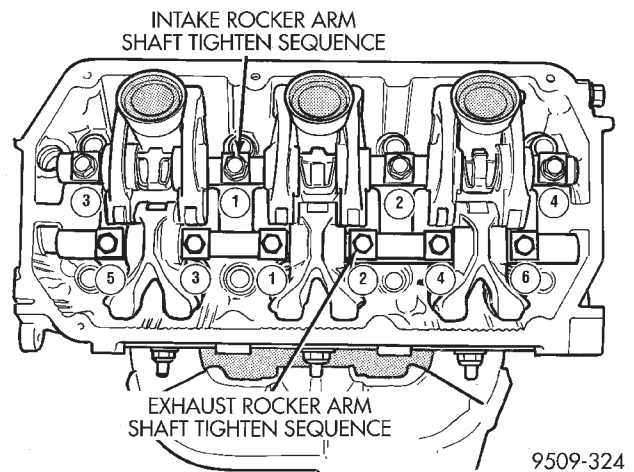

Fig. 40 Rocker Arm Shaft Tightening Sequence
- (1) Lubricate camshaft journals. Install camshaft into the cylinder head carefully.
- (2) Install thrust case and tighten fasteners to 13 N·m (108 in. lbs.).
- (3) Install camshaft seal. Camshaft must be installed before the camshaft seal is installed. Refer to procedure outlined in this section.
- (4) Install camshaft sprocket and tighten to 88 N·m (65 ft. lbs.).
- (5) Install timing belt. (Refer to procedure outlined in this section).
- (6) Install rocker arm assemblies in correct order as removed. Tighten the rocker arm assemblies in sequence shown in (Fig. 40) to 31 N·m (276 in. lbs.).